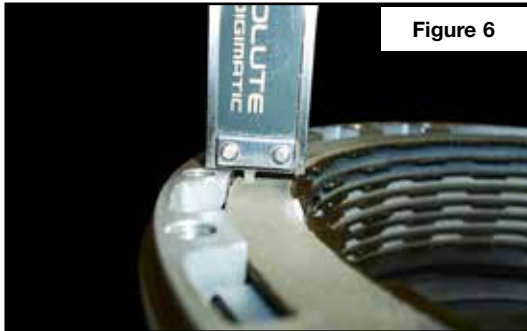

Figure 6
- d. With the clutch pack installed, measure the clearance from the top friction to the end face of the housing. Measure in multiple locations to ensure an accurate reading. Clearance should be between .050–.060" (Figure 6). Adjust clearance by substituting different thickness steel plates.